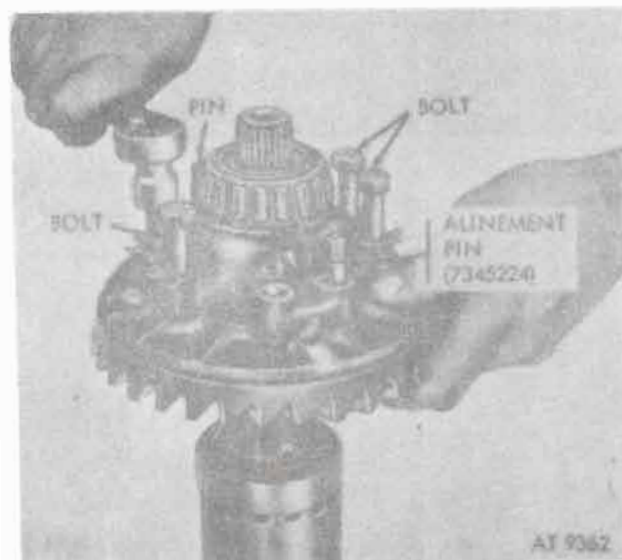

Figure 12-43. Removing alignment pins (7345224).
j. Tighten for opposite bolts and remove alignment pins (7345224) (fig. 12-43).